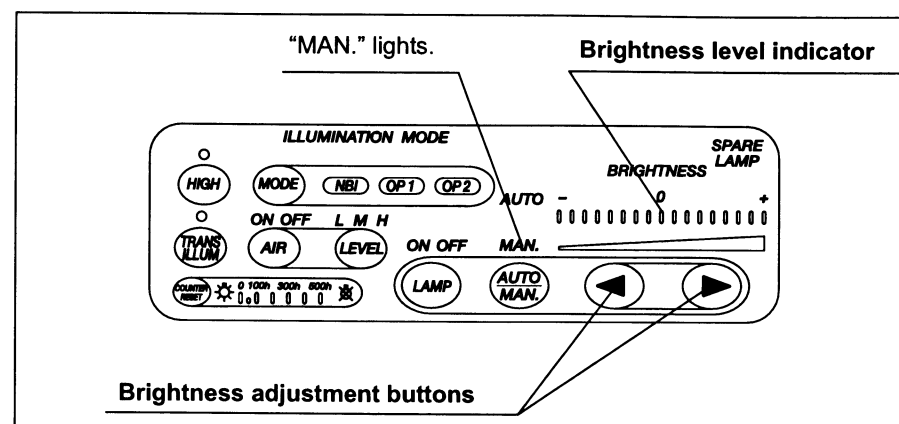

Figure 3.10
2. Press the brightness adjustment buttons ("◀" or "▶") and confirm the following (see Figure 3.10):